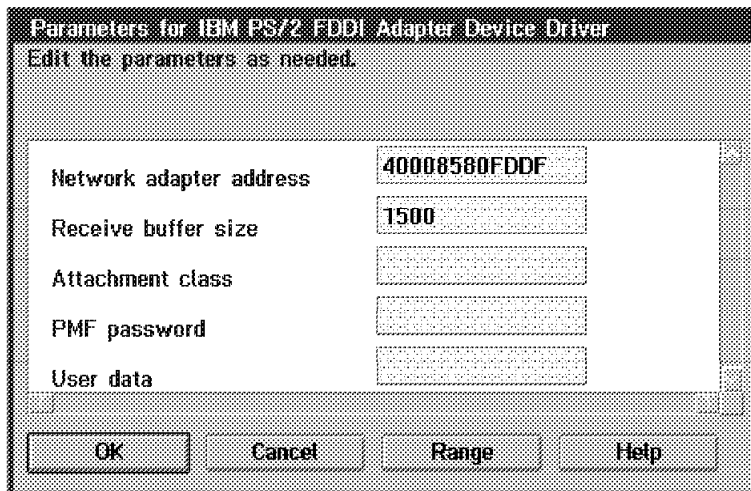

Figure 129. Edit Adapter Parameters for Workstation LAN Adapter (FDDI)
Step 2. In the Edit Adapter Parameters window, enter the network address of the FDDI adapter, 40008580FDDF as shown in Figure 129.